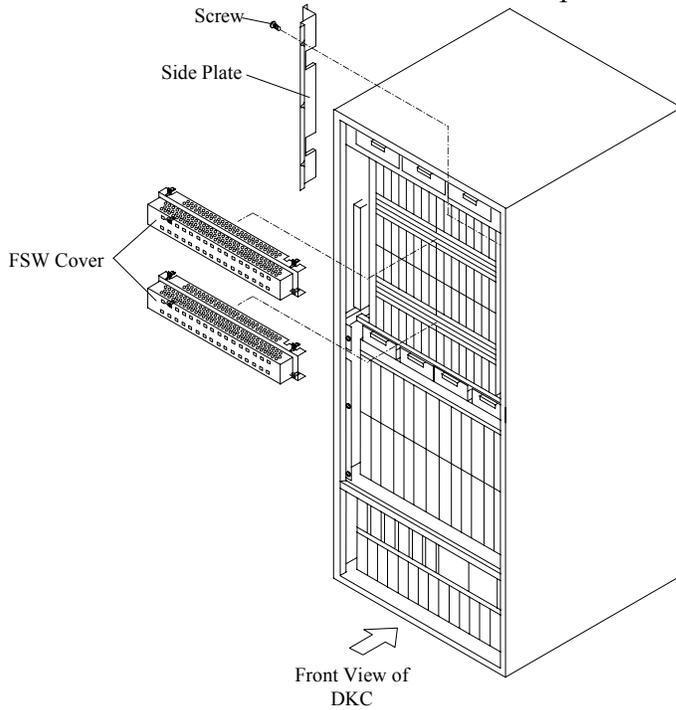
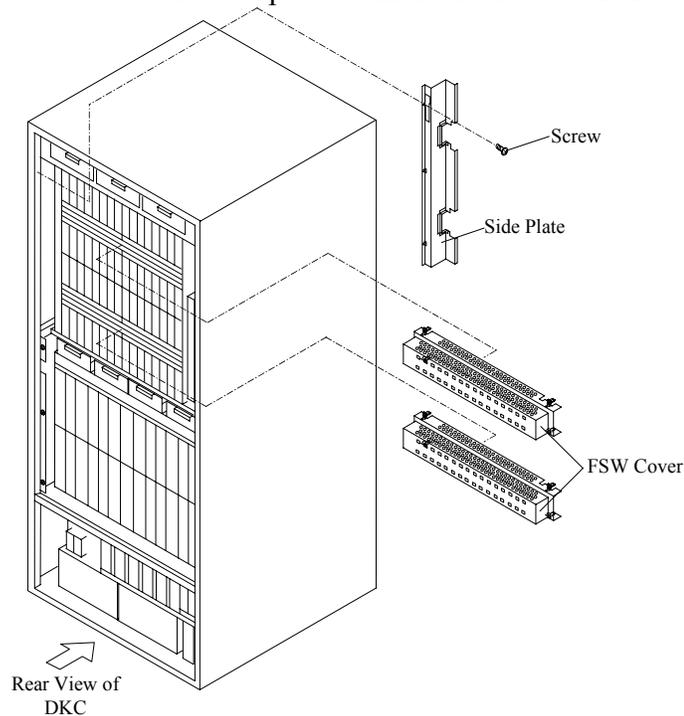

Fig. T22-1 Removal of Covers
Fig. T22-2 Removal of Covers
- a. Attach the side plate and FSW covers to front or rear of the DKC. Refer to Fig. T22-1 or Fig. T22-2.